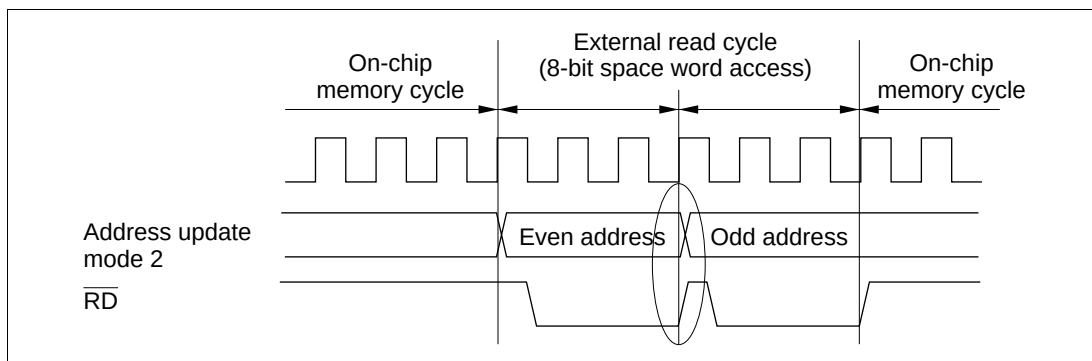

Figure 6.6 Example of Consecutive External Space Accesses in Address Update Mode 2
- In order to secure address holding with respect to the rise of $\overline{RD}$, when address update mode 2 is used an external space read access must be completed within a single access cycle. For example, in a word access to 8-bit access space, the bus cycle is split into two as shown in figure 6.6., and so there is not a single access cycle. In this case, address holding is not guaranteed at the rise of $\overline{RD}$ between the first (even address) and second (odd address) access cycles (area inside the ellipse in the figure).